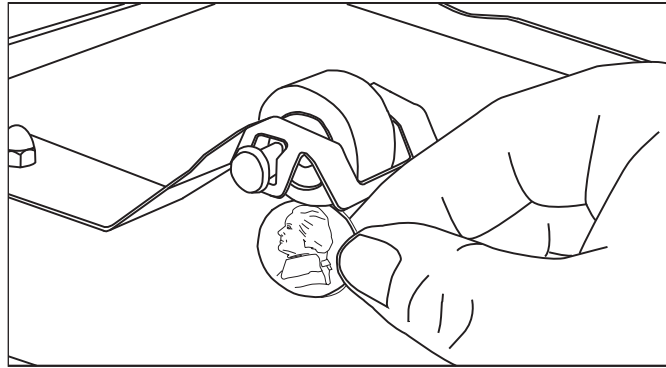

Figure 14. Measuring Roller Tensioner
1. Measure the Roller Tensioner on both inner Conveyor Covers (Figure 14) using a U.S. Nickel.